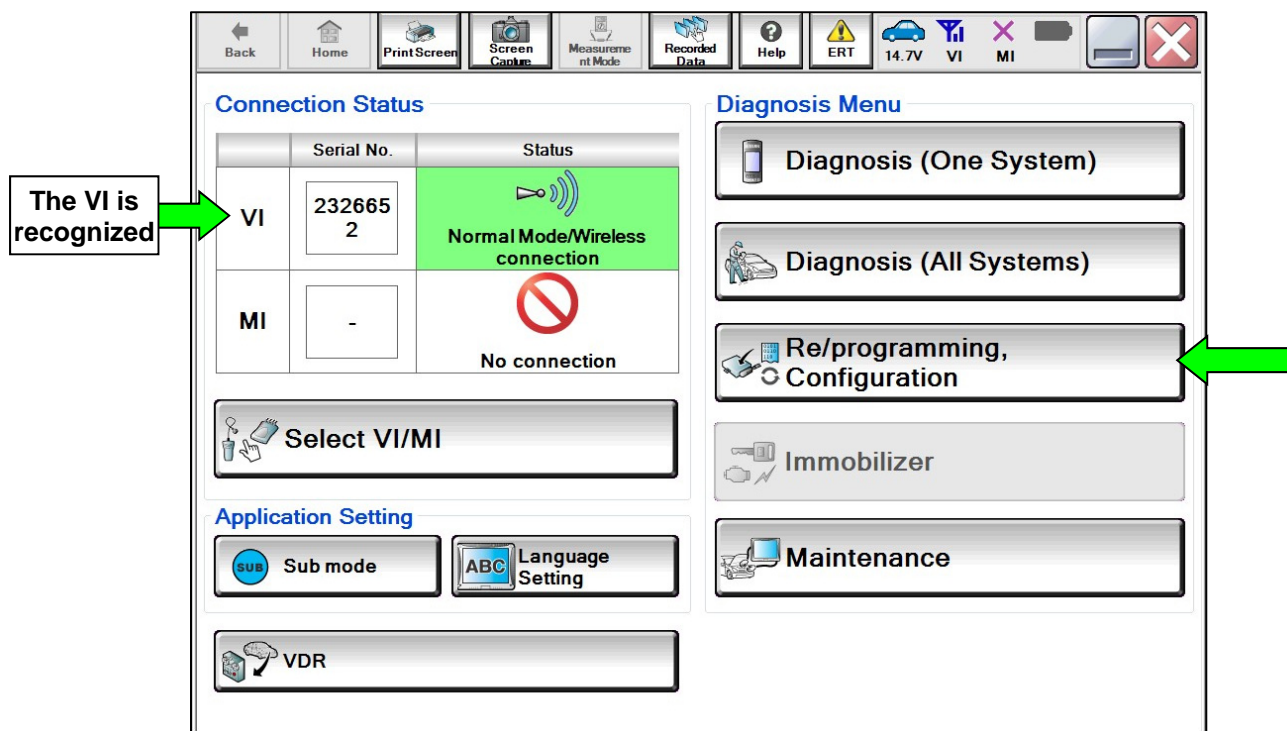

Figure 1
- The serial number will display when the VI is recognized (see Figure 1 on page 3).